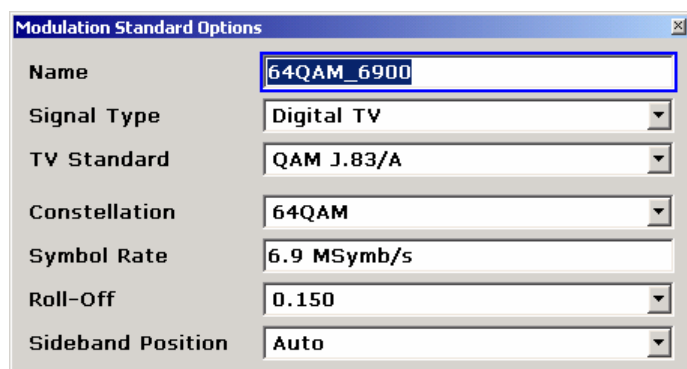

Fig. 2-67 Digital TV modulation standard 64QAM_6900
- The **Modulation Standard Options** dialog box should now look as in Fig. 2-67.